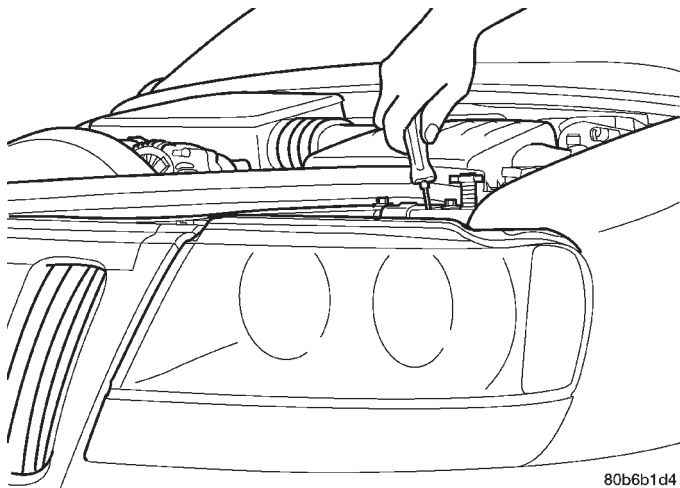

Fig. 4 Headlamp Beam Adjustment
(1) Clean front of the headlamps.
(2) Place headlamps on LOW beam.
(3) Cover front of the headlamp that is not being adjusted.
(4) Turn adjustment screw (Fig. 3) and (Fig. 4) until the top edge of the beam intensity pattern is positioned within 25 mm (1 in.) above or 75 mm (3 in.) below the headlamp horizontal centerline.
(5) Cover front of the headlamp and adjust the other headlamp beam as instructed below.